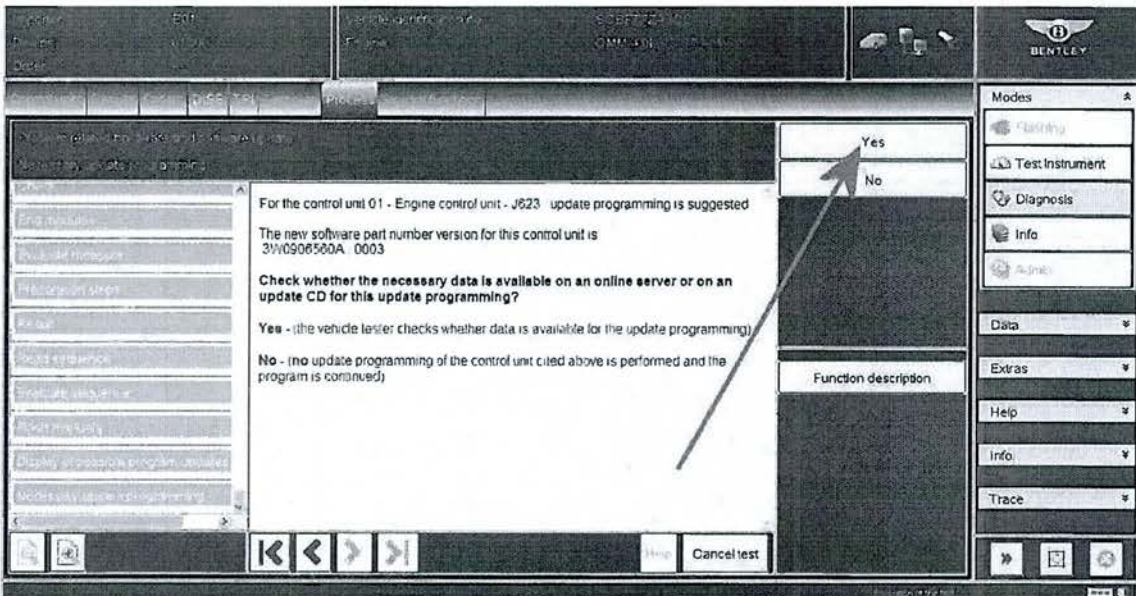
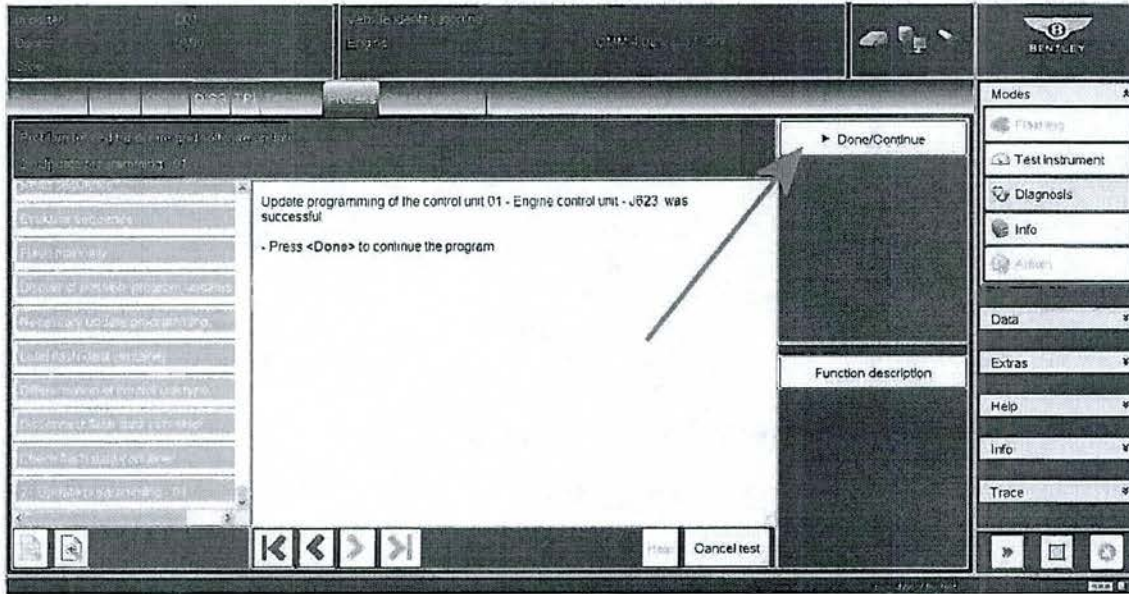

Figure 10
Figure 11
- When requested, enter your GEKO user ID and follow all on screen prompts until you arrive at Figure 10.
- At Figure 10 select **Yes** and follow all on screen prompts until the update programming of the control unit 01- Engine control unit – J623 was successful as shown in Figure 11
- Referring to Figure 11 select Done/Continue and follow all on screen prompts until **program end**.